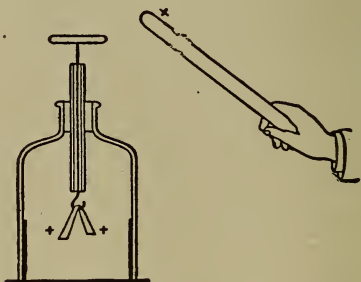

Fig. 8. Charging an Electroscope by Influence.
*Answer.* As shown in Fig. 4 and in Fig. 8, it consists of a glass jar sealed up, practically moisture proof, with two leaves of metal foil hanging from a metal rod in the jar, the other end of the metal rod in the air terminates in a metal ball.
*Answer.* Rub a glass rod with a piece of silk and hold rod near the ball of the electroscope, but do not touch it. See Fig. 8. The leaves will diverge and remain apart.